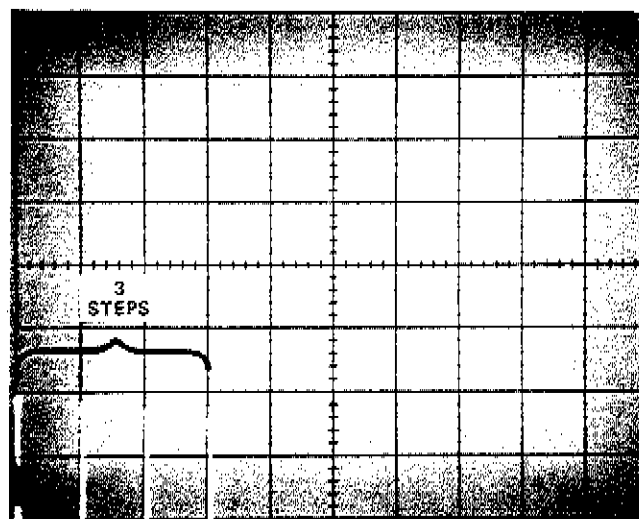

Fig. 5-7. Typical display illustrating step g.
g. CHECK—The display should resemble that of Fig. 5-7